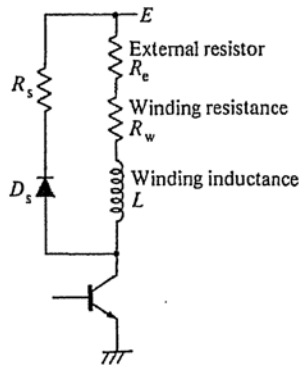

Figure Q4a
- (b) Figures Q4a, Q4b, and Q4c show the stepper motor drivers using resistance loading, dual voltage supply, and PWM respectively. Explain the operations of these circuits by referring to the charge/discharge current paths. Compare the performances between these three circuits. (12 marks)